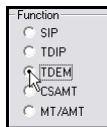

Fig. 3-1: The **Function** area of the **Acquisition Parameters** dialog box.
2. In the **Function** area, select the method. (See Fig. 3-1.)